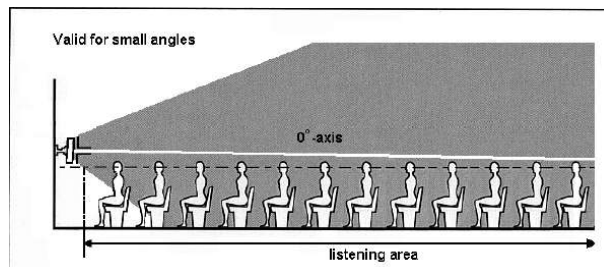
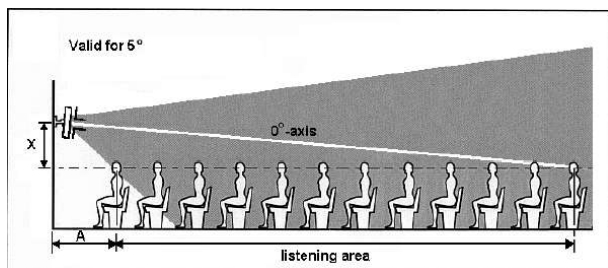

Figure 1: side view of loudspeaker array radiation mounted to the wall with a small angle
Figure 2: side view of loudspeaker array radiation mounted to the wall with a 5° angle
1. Determine the dimensions of the desired 'listening area' (a horizontal plane at the level of the listeners' ears – refer to the dashed line in figure 1).
- When a large listening area is desired, an angle of around 3° is recommended (see figure 1). Note that when walking away from the loudspeaker array, the sound pressure level will decrease by an amount that depends on the room reverberation. To hear high tones clearly, the listener should be able to see the loudspeaker array.
- When less sound pressure level variation is desired, an angle of 5° is recommended. Note that this reduces the size of the total listening area compared to approach 1, and that the space very close to the loudspeaker array ('A' in figure 2) is not part of the listening area. Diagram 1 shows the relationship between 'A' and the mounting height of the loudspeaker array when using a 5° installation angle.
2. Measure the maximum distance from loudspeaker array to the last listener in the listening area (corresponding to 'B' in figures 1, 2 and 3).
3. Refer to diagram 1, and trace upwards from the maximum distance on the horizontal axis. From the vertical intersection with diagonal B-line, you go horizontal to the vertical axis. The X-value (height of loudspeaker array mounting bracket above the listening plane, 'X' in figure 1) is standing on this axis. The horizontal intersections with other diagonal lines provide information about the dimensions of the listening area. These numbers are related to figures 2 and 3 (see also example below).
4. Figure 2 shows the 1 kHz octave shape radiated by the loudspeaker array and figure 3 shows the 4 kHz octave shape radiation. The listening area with the optimal acoustic performance is in these shapes. Ensure the 4 kHz shape with the dimensions obtained using diagram 1 adequately covers the desired listening area.